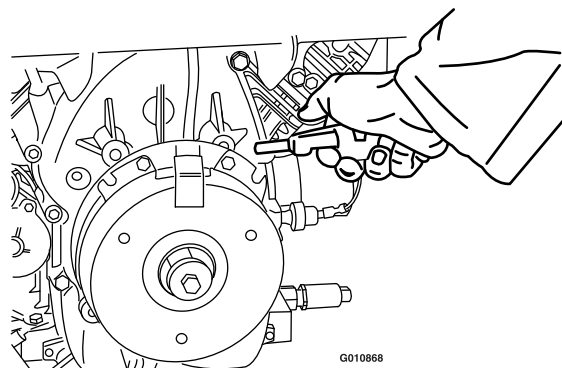

Figure 71
3. Using an air compressor, blow out any debris from under the brake pole and around the brake spacers (Figure 71).